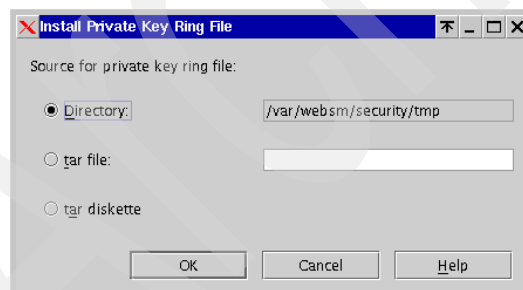

Figure 7-15 Install Private Key Ring file
- Select the Install the private key ring file for this server task. The Install Private Key Ring File window opens as shown in Figure 7-15.